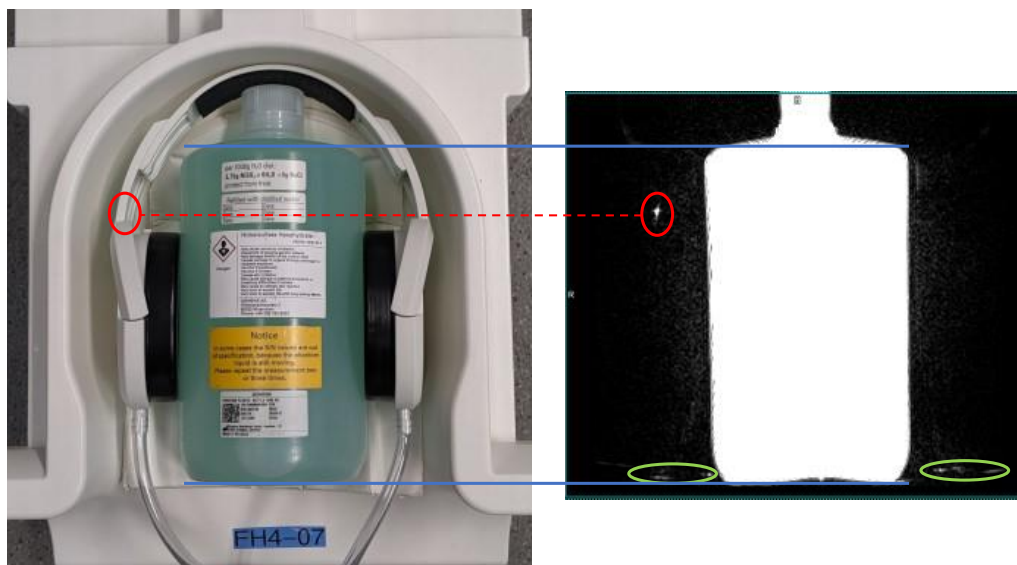

Figure 2
- Set up with phantom bottle and headphones as shown in *Figure 2* below.